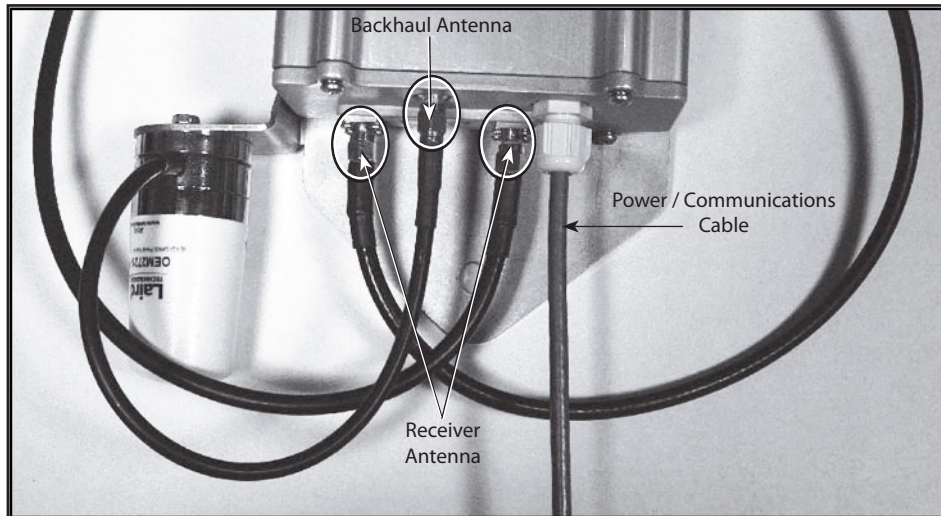

Figure 14: Antenna Connections to Receiver
10. Attach the connectors from each antenna cable to the receiver as shown (see Figure 14). Tighten each connector until firmly seated. Do not overtighten.